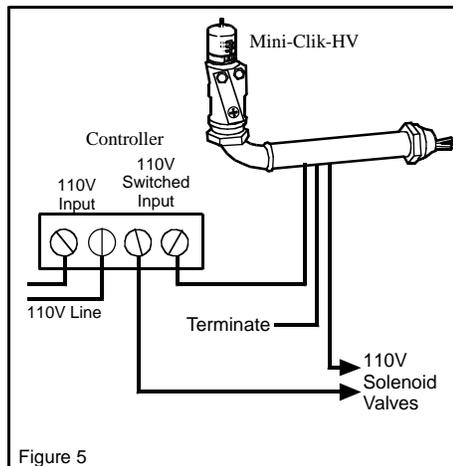

Figure 5
C. Special Instructions for Mini-Clik-HV (See Figures 5 and 6)